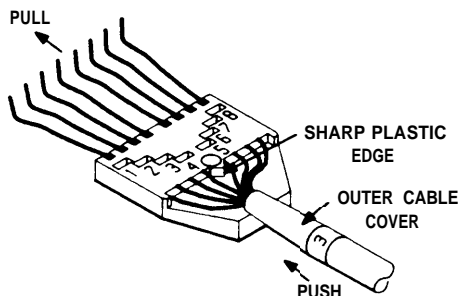

Figure 3
5. When you have all eight wires in their correctly numbered holes, **push** and **pull** on them so that the outer cable cover is close to the sharp plastic edge as shown in Figure 3.